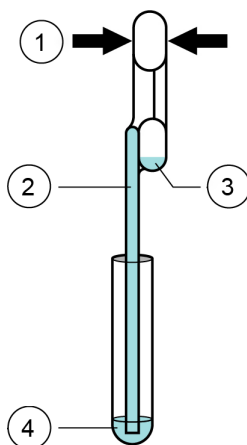

Figure 7. Transfer Pipette
15. Squeeze the top bulb of the transfer pipette completely and then place the pipette tip in the specimen transport tube (see Figure 7).
16. Slowly release the top bulb of the pipette to fill the pipette before removing from the tube. After filling pipette, excess sample can be seen in the overflow reservoir bulb of the pipette (see Figure 7). Check that the pipette does not contain bubbles.